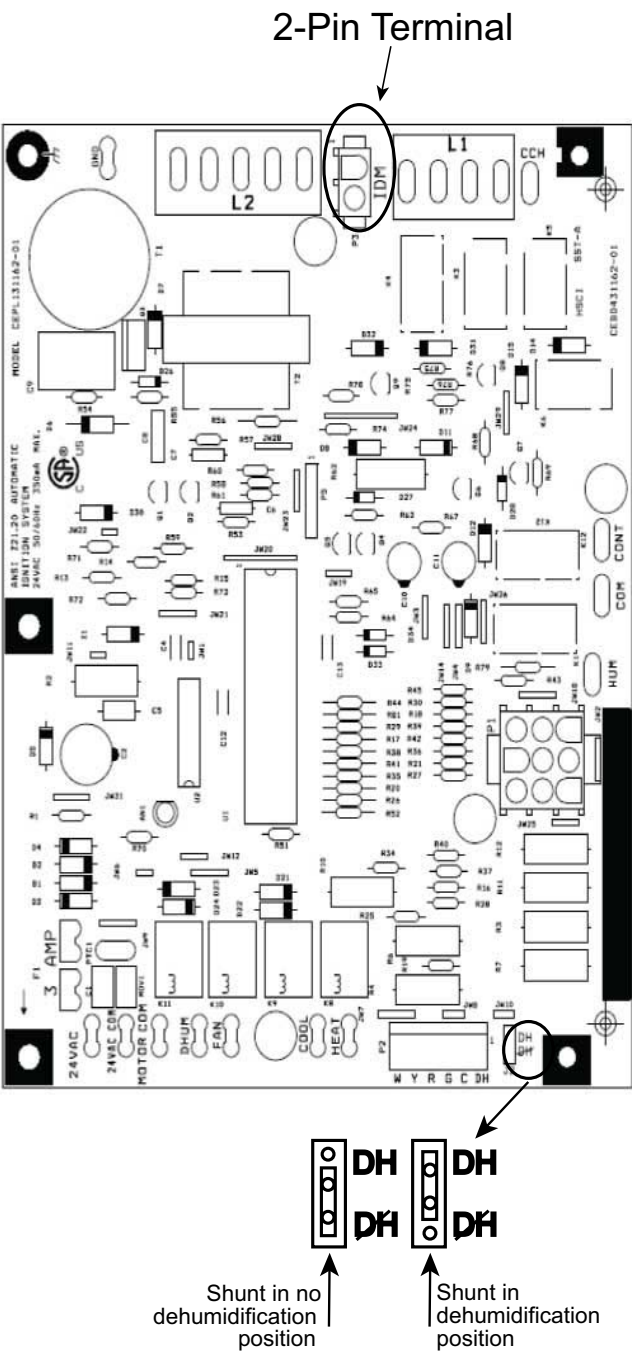

Fig. 22 – Ultra Low NOx IGC Board
This unit is factory-set for use with a single cooling fan speed. For single phase models, the cooling speed is marked "COOL" on the IGC (See Fig. 22). The factory-shipped settings are noted in Table 10. There are up to 3 additional speed tap wires available for use in either gas heating mode, cooling mode, or continuous fan mode (For color coding on the indoor fan motor leads, see Table 8). For single phase models, one of the additional speed tap wires is connected to the continuous fan, with the other 2 wires shipped loose in the control box near the IGC. For three phase models, the additional 3 speed tap wires are shipped loose with vinyl caps and are located in the control box near the interface fan board (IFB) (See Fig. 22).
- 1. Move shunt jumper on IGC board to “DH” (See Fig. 22).
Continuous Fan Speed must meet or exceed the Required Minimum Dissipation Airflow (Table 1), Continuous fan speed selected must be connected to "FAN" terminal on IGC Board (Fig. 22).